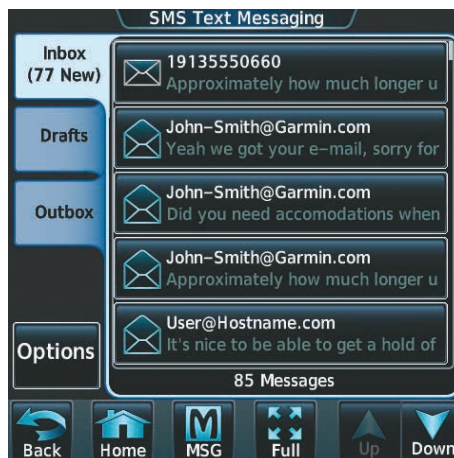

Figure 8-79 SMS Text Inbox
- 2) Touch the **Inbox** Tab. A list of received messages is displayed as in Figure 8-79. The **Inbox** Tab is selected by default when accessing the SMS Text Messaging Screen.